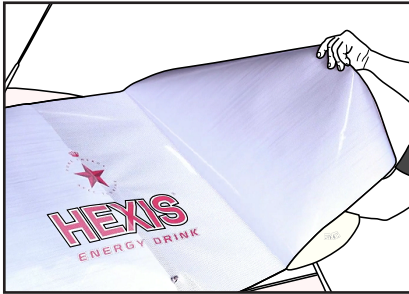

Figure 11
- › Apply the centre of the compound with the edge of your hand to fix it on the glass. (FIG. 11)